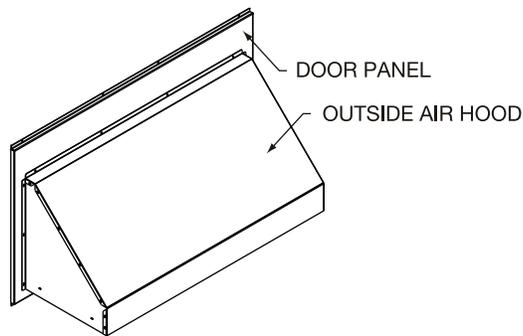

Fig. 43 — Assemble the Outside Air Hood
2. To assemble outdoor air hood (shown in Fig. 43):
4. After the slides are in the desired position, secure the outdoor air hood to the door panel using the provided no. 10-16 x 1/2 screws as shown in Fig. 43.